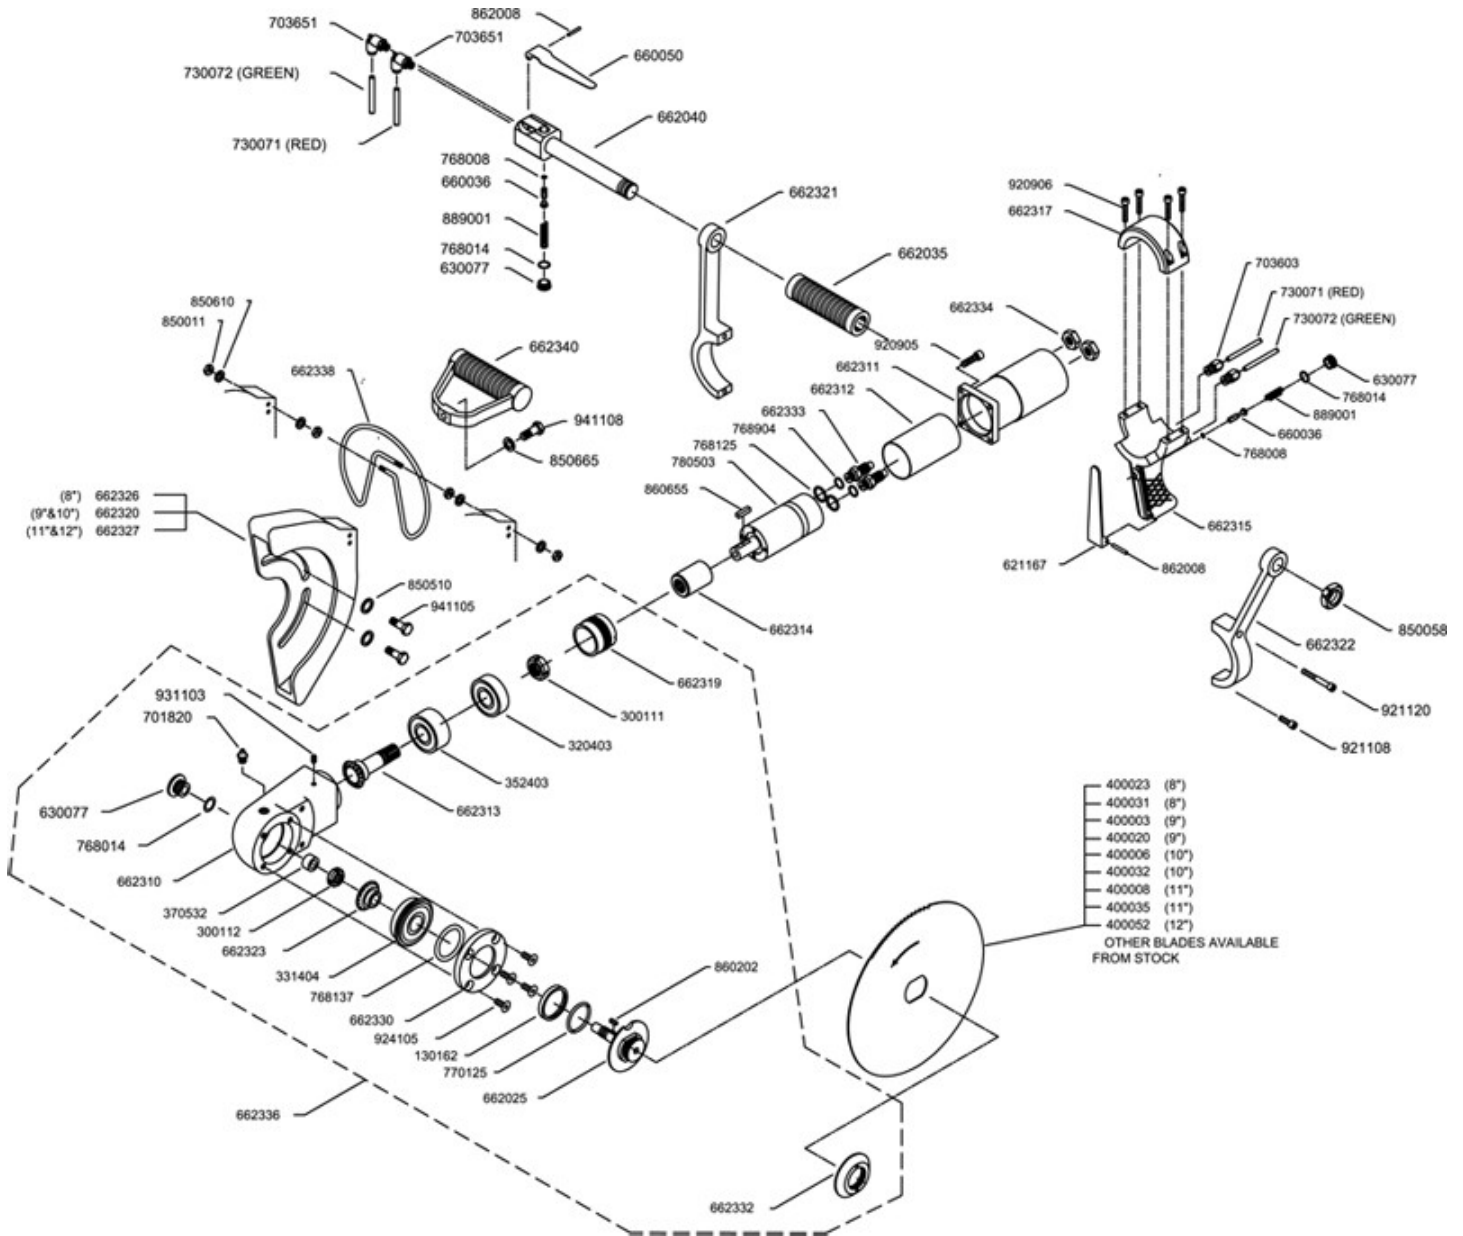

Figure 2 MODEL "HKM-III" – MAIN ASSEMBLY
1. REMOVE 4 SCREWS (#920905, FIG. 2) BETWEEN NOSE (#662310) AND MOTOR SHELL (#662311)
3. REMOVE FOUR SCREWS (ITEM 924105, FIG. 2)
4. REMOVE PLUG (ITEM 630077, FIG. 2). WITH ACENTER PUNCH INSERTED THRU HOLE PLUGGED WITH PLUG, PRESS OUT MANDREL (ITEM 662025, FIG. 2) AND ALL OTHER INTERNAL PARTS.
5. LOOSEN SCREW (ITEM 931103, FIG. 2)
6. REMOVE RETAINER (ITEM 662319, FIG. 2)
4. **FILL WITH GREASE (KENTMASTER GREASE – 7903070) AT FITTING (ITEM 7018220, FIG. 2) BEFORE USING TOOL**